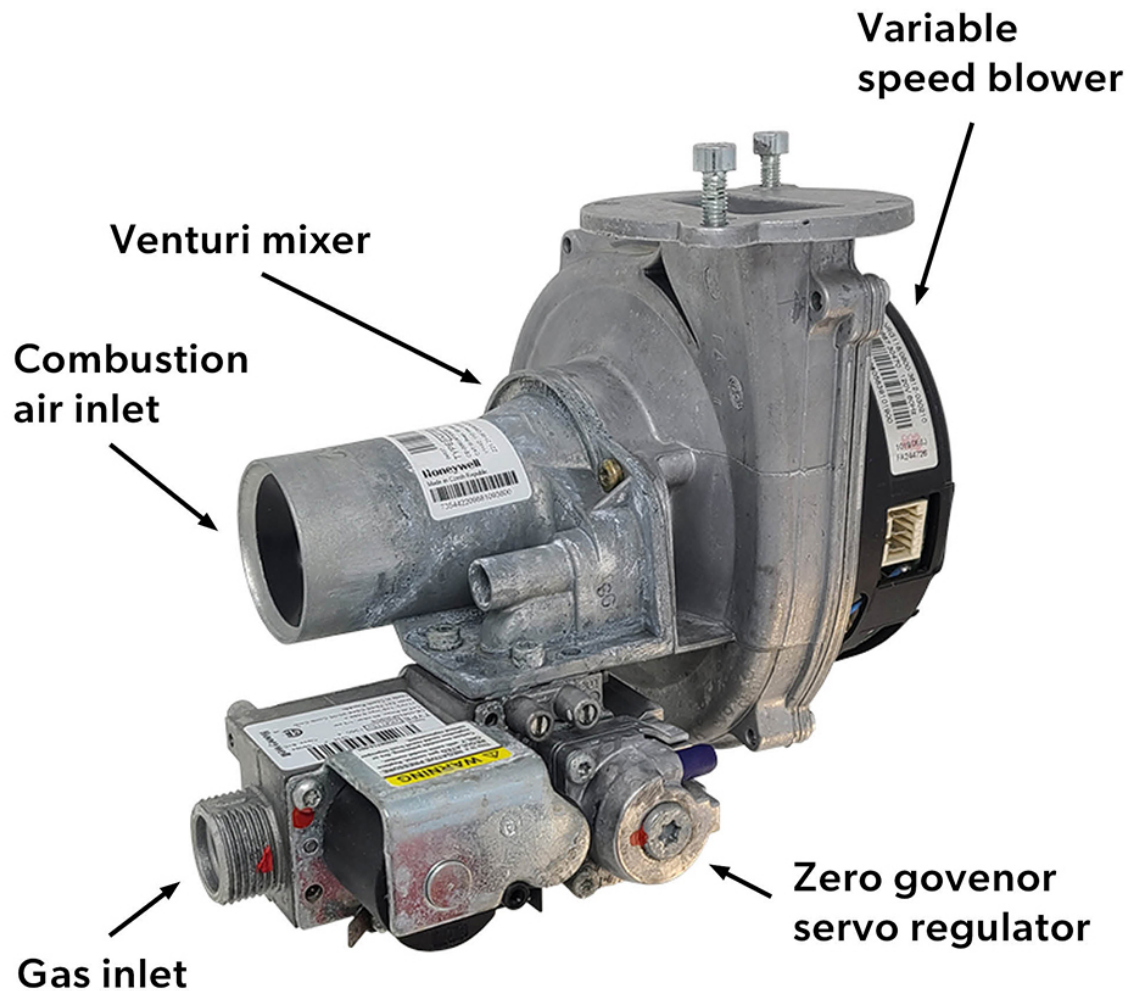

Figure 39. Venturi Mixing Burner Assembly
Commercial and residential modulating/condensing boilers and on-demand water heaters, will have all of the components in one packaged burner assembly (Figure 39). A zero governor servo regulator is incorporated into the combination gas valve. Instead of a butterfly valve to adjust the combustion air flow a variable speed motor is used on the blower to change the air flow. As the blower modulates to meet the heat demand the zero governor changes the gas input to automatically achieve proportional mixing.
- Figure 39. “Venturi Mixer Burner Assembly” by Rod Lidstone is licensed under a CC BY-NC-SA licence.